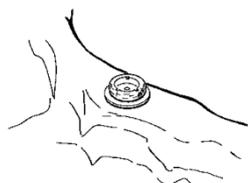

Fig. C1
2. Place a White Block-Out Spacer over the head of each LOCATOR[®] Abutment. (Fig. C1) The spacer is used to block out the area immediately surrounding the abutment. The space created will allow the full resilient function of the pivoting metal denture cap over the LOCATOR[®] Black Processing Replacement Male.